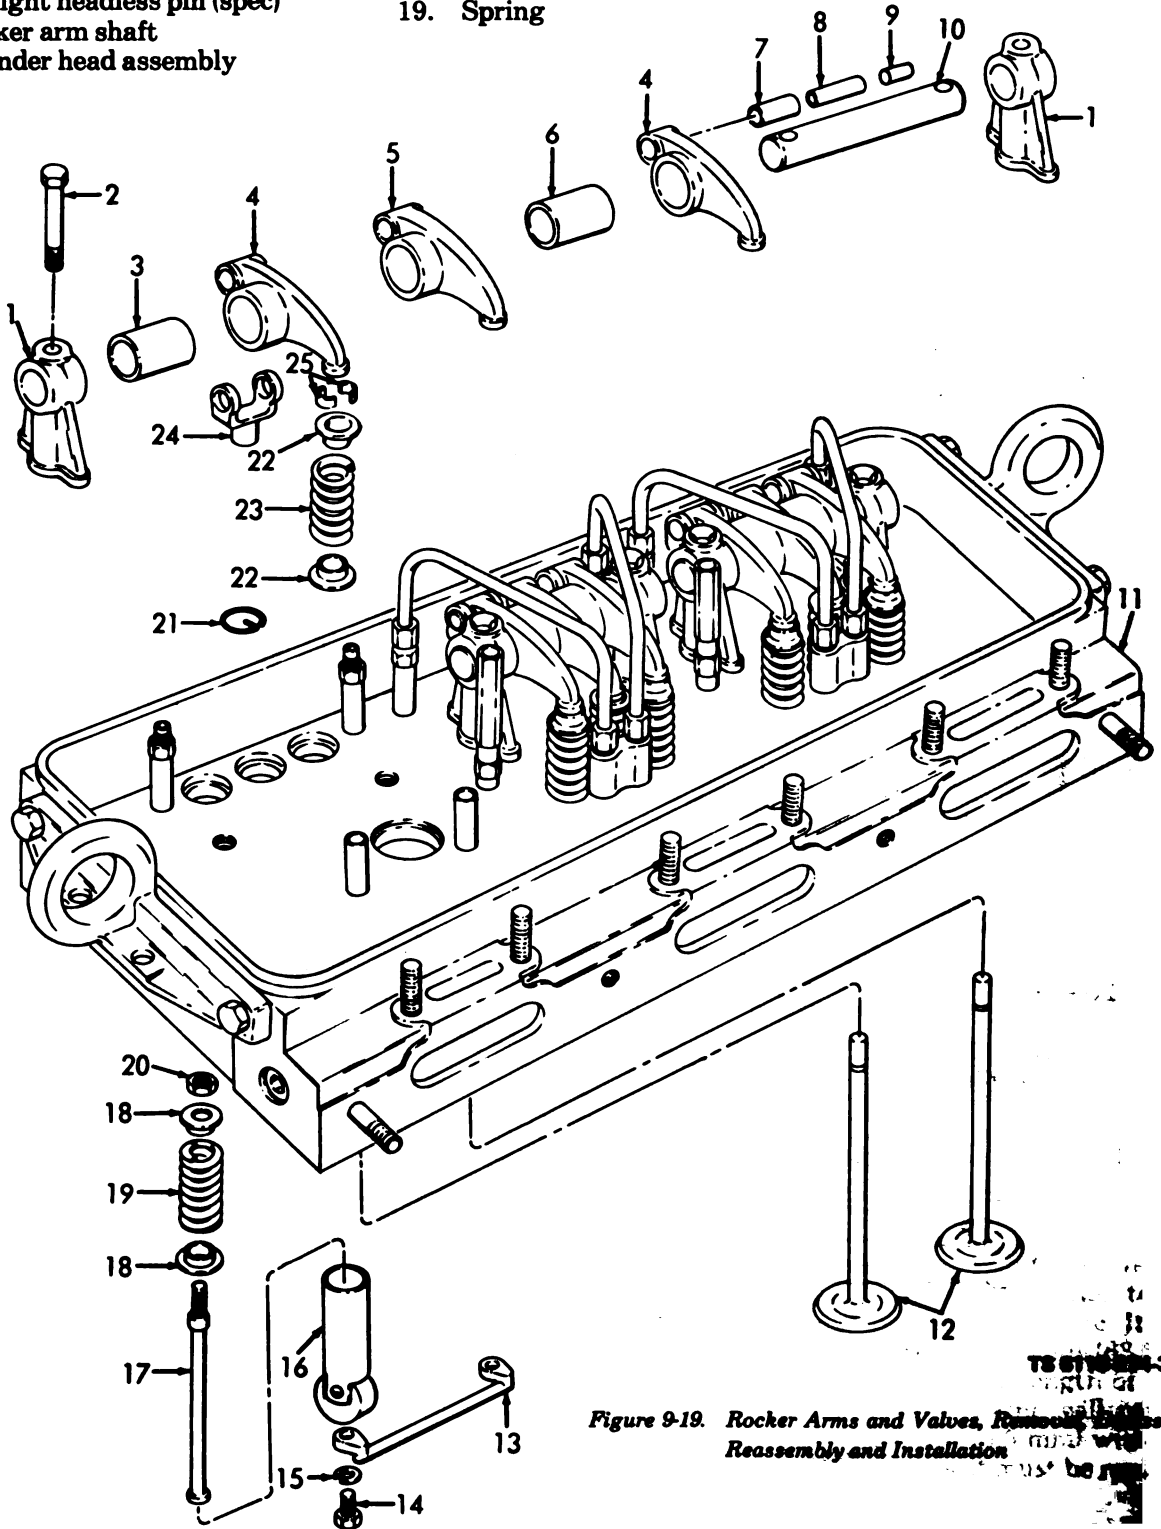

Figure 9-19. Rocker Arms and Valves, Removal, Disassembly, Reassembly and Installation
- (5) Remove single outlet water nozzle (16), and double outlet water nozzle (17).
- (6) Remove pipe plug (18), and valve seats (19).
- (7) Remove rocker arm brackets (1, fig. 9-19), bolts (2), sleeve bearings (3) and rocker arms (4).
- (8) Remove injector rocker arms (5), sleeve bearing (6, 7 and 8), pin (9) and rocker arm shaft (10).
- (9) Remove valve spring retainer (25), spring seats (22), springs (23) and exhaust valves (12).
- (10) Remove rod end clevis (24), retaining ring (21), nut (20), spring seats (18), springs (19), push rods (17), cam follower (16), screws (14), washers (15) and cam follower guide (13).
(1) Assemble rod end clevis (24, fig. 9-19), retaining ring (21), nut (20), spring seats (18), springs (19), pushrods (17), cam follower (16), screws (14), washers (15) and cam follower guide (13).
(2) Assemble valve spring retainer (25), spring seats (22), springs (23) and exhaust valves (12).
(3) Install injector rocker arms (5), sleeve bearings (6, 7 and 8), pin (9) and rocker arm shaft (10).
(4) Install rocker arms (4), sleeve bearings (3), bolts (2) and rocker arm brackets (1).